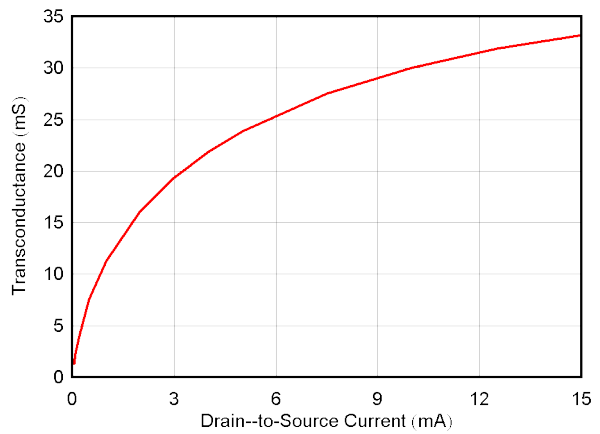
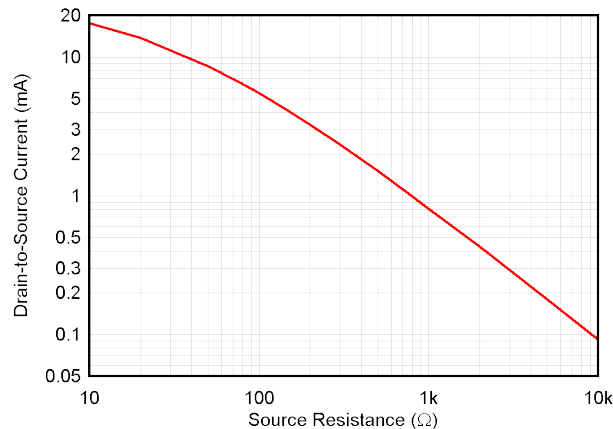

图 6-4. Common Source Transconductance vs Drain-to-Source Current
图 9-3. Drain-to-Source Current vs R_S , $V_{DS} = 5 \text{ V}$
Generally, higher gain results in improved noise performance. Gain increases as the bias current is increased as a result of increasing gm (see 图 6-4). As a result, the input-referred noise decreases as bias current is increased (see 图 6-9). Any JFET design must make a tradeoff between current consumption and noise performance. The JFE150, however, delivers significantly lower noise performance than most operational amplifiers at the same current consumption. The bias current (I_{DS}) is set by the value of the source resistor, R_S , and the threshold voltage, V_T , of the JFE150. 图 9-3 is a graph showing nominal I_{DS} vs R_S .
R_S	Source resistor. Used to set bias of JFET; see 图 9-3. Resistor thermal noise directly impacts noise performance.
- The JFE150 bias current is set by selecting the desired bias current and noise tradeoff (see 图 6-11). The input-referred noise is dominated by the JFE150 bias current and gain. To set the bias current point, adjust the source resistance according to 图 9-3.